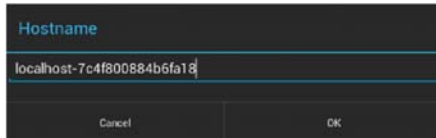

FIG. 56 Hostname window
1. From the Ethernet page (IPv4 tab), select Hostname to open the Hostname window (FIG. 56).